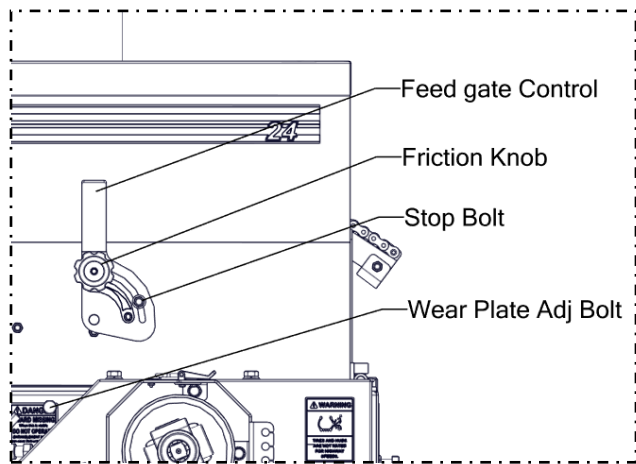
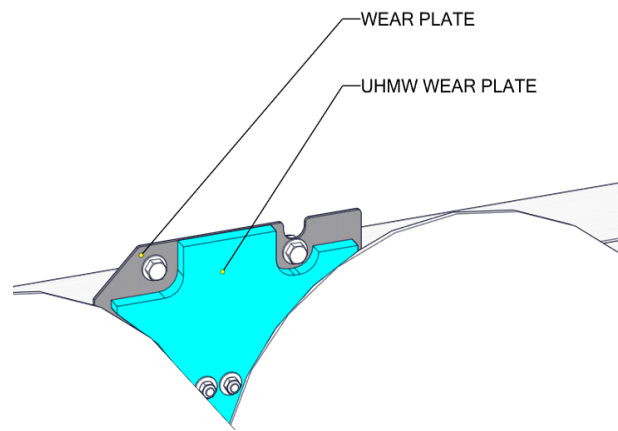

Figure 4.6
Figure 4.7
Set the friction nut/washer (Figure 4.6) so that it supports the weight of the feed gate and yet allows the gate to be opened and closed by hand. Note that the setting of the feed gate helps to spread the feeding of grain evenly across the face of the roll. The feed gate also serves to limit the overall flow of grain through the rolls.
Wear plates (Figure 4.7) are used to keep grain from escaping around the ends of the rolls. The positioning of the wear plates can be seen when the feed gate is fully open. A noise can be heard if the wear plates are contacting the rolls. To remedy this, loosen the jam nut and wear plate adjustment bolt (Figure 4.6) until the noise stops. Alternately, if the gap is excessive, turn the bolt into the plate until the plate touches the roll, then back off until the noise stops. Tighten the jam nuts when the desired setting is obtained. Be sure to maintain the position of 'UHMW wear plate' (Figure 4.7) to cover chamfer at ends of rolls. Replace as necessary.
2. Ensure that the feed gate is closed (Figure 4.6) before starting the mill. Even a few grains will keep the rolls from turning. Start the rolls turning at minimum RPM and slowly increase the RPM speed to 540.
6. When finishing the rolling process, always clean the top hopper out completely and close the feed gate. Note that the feed gate stop bolt (Figure 4.6) can be used to set a consistent opening point. This maintains product consistency each time rolling is performed.